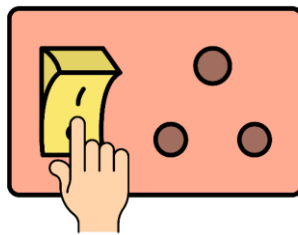

Fig. 1.50 Switch on the power supply
Step 1. Turn ON the switch of the socket. Figure 1.50 illustrate to switch ON the supply